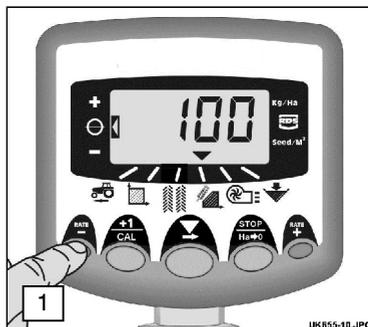

Figure 15 : View current Target Rate
1. With the rate display selected, press and hold either the **RATE** \oplus button or the **RATE** \ominus button for 5 seconds (fig. 15), then release the button. The display will flash.